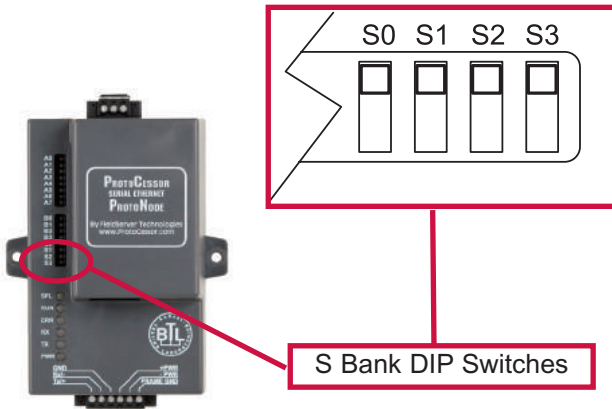

Fig. 2: S0 through S3 DIP Switches
- 3 Select the Field Protocol (BACnet MS/TP, BACnet IP, Modbus TCP or Metasys N2) on the S Bank Dip Switches on the FPC-N34-0636. (See Fig. 2)
- All Raypak VERSA IC Master units connected to the ProtoNode MUST ALL have the same Baud Rate, Data Bits, Stop Bits, and Parity. (See Fig. 2) These settings have no impact on the BMS portion of the Protonode communication and only are used to connect between the Versa IC Master and the Protonode.